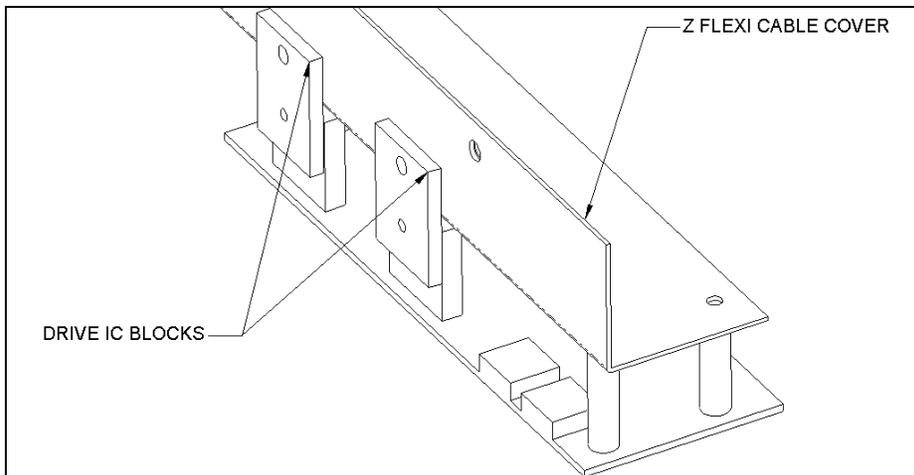

Figure 7-33 Z Transition Board
- 1 Remove the two M3 x 8 Button Head screws and Nylon shoulder washers (Figure 7-33).